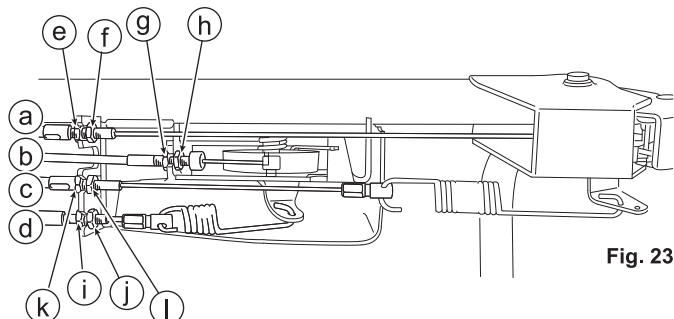

Fig. 23
8.5.1 Throttle Lever (See Figs. 23 and 24)
8.5.2 Blade Lever (See Figs. 23 and 25)
3. Confirm that the blade stops completely when the blade lever (C) is released.
8.5.3 Drive Clutch Lever (See Figs. 23 and 26)
3. Confirm that the machine can be pull backward when the drive clutch lever (B) is released.
8.5.4 Gearshift Lever (See Figs. 23 and 27)